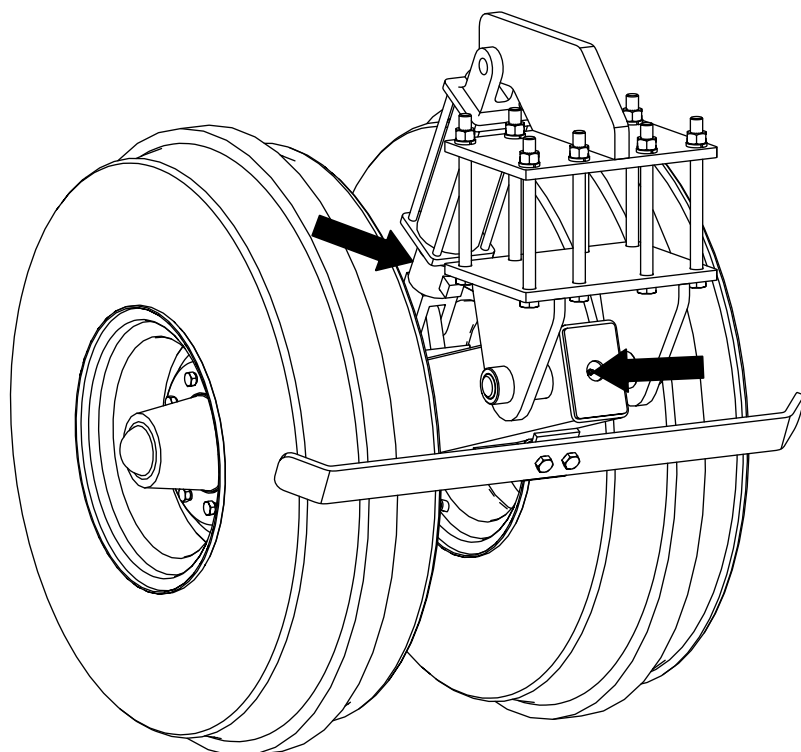

Figure 24 Rigid Struts Zerk and Depth Stop
3. Lubricate depth stop zerks (Figure 24, 27)
4. Lubricate any rigid, steerable, or wing strut component zerks (Figure 24, 27)